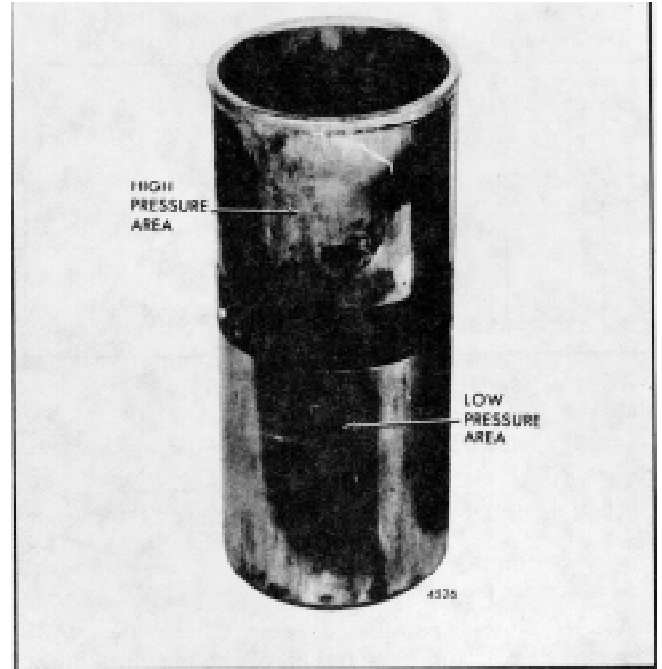

Fig. 13 - High Pressure Areas on Cylinder Liner
- c. The cylinder block is alternately expanding and contracting, during engine operation, due to temperature variations. This may result in irregularities in the block bores (out-of-round and taper), the effects of which will be seen as high pressure areas on the outside of the cylinder liner (Fig. 13).